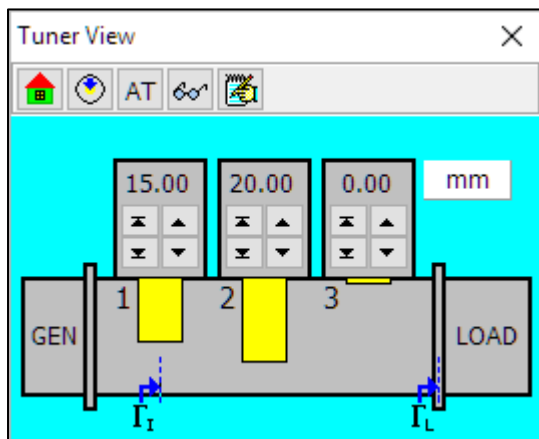

Figure 49. Tuner View window.
3. Open Tuner View window (Figure 49) by clicking **Tuner|View** menu item or  button.